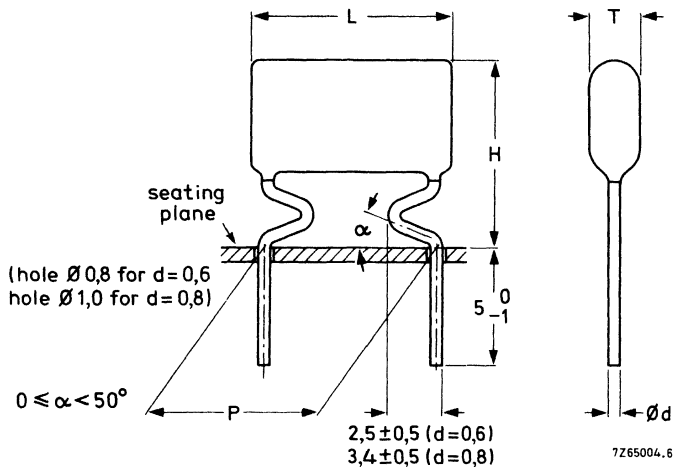

Fig. 1 Capacitors 2222 347.
Table 1 U_R (DC) = 100 V; max. AC voltage = 50 V, Fig. 1
Table 2 U_R (DC) = 250 V; max. AC voltage = 80 V, Fig. 1
Table 3 U_R (DC) = 400 V; max. AC voltage = 125 V, Fig. 1